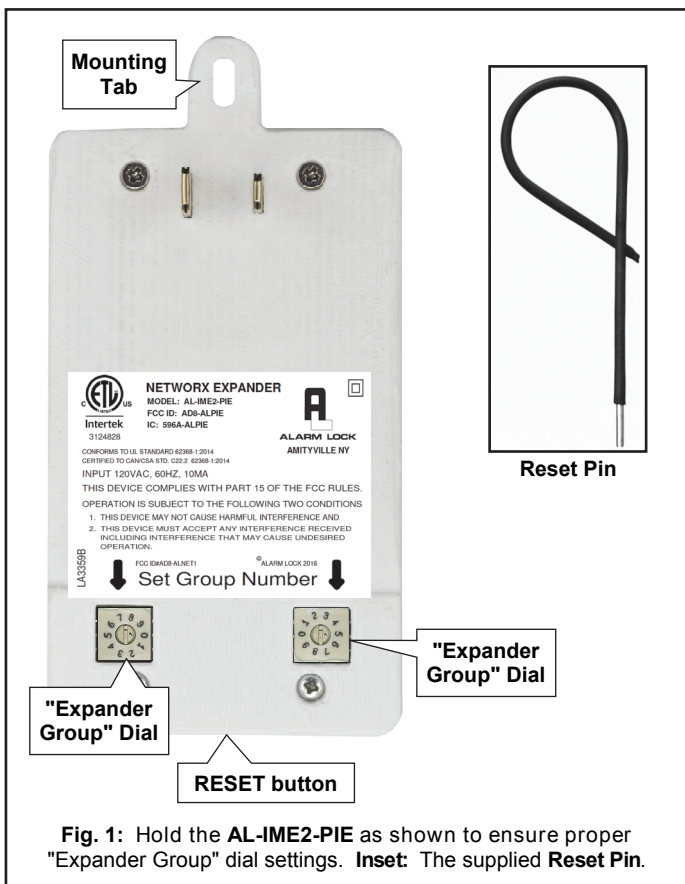

Fig. 1: Hold the **AL-IME2-PIE** as shown to ensure proper "Expander Group" dial settings. Inset: The supplied **Reset Pin**.
- (Optional) Use the **Mounting Tab** (see Fig. 1) to prevent unauthorized access to the **AL-IME2-PIE** by securing the unit to the wall outlet (replace the existing center outlet cover screw with the supplied screw)
On the inside surface of the Expander are two rotary "Expander Group" dials. When the **AL-IME2-PIE** is held in your hand in the orientation shown in Fig. 1, use these dials to set the "Expander Group" value ("00" through "99" are valid selections). All version 2 Gateways include an identical set of dials. *The dial value set on your Gateway MUST match the dial value set on your AL-IME2-PIE.*
be set to a different "Expander Group" value (along with its associated Expanders). The "Expander Group" value determines which Expanders are associated with each Gateway, thus preventing Gateways from discovering unintended Expanders. **Note:** The small "selection arrow" on each dial must be pointing directly to the desired value. Hold the **AL-IME2-PIE** with the label "up" as shown in Fig. 1.
**IMPORTANT:** ALWAYS reset the Expander memory, even if the Expander is new "out of the box" and/or has never been used previously. The **RESET** button described below can be accessed through a small hole in the unit (location shown in Fig. 1). To depress the **RESET** button, simply insert supplied **Reset Pin** into the hole. Proceed as follows: